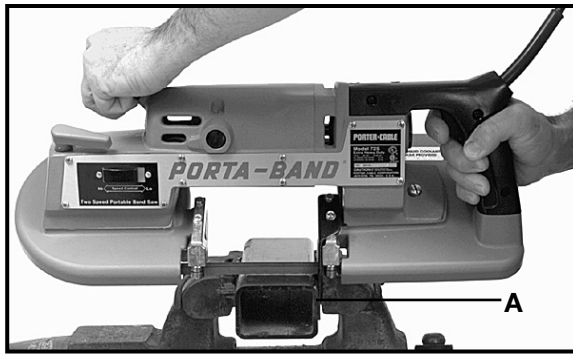

Fig. 5
3. Hold the saw as shown in Fig. 5, with the work stop (A) contacting the work and blade teeth clear of the work.